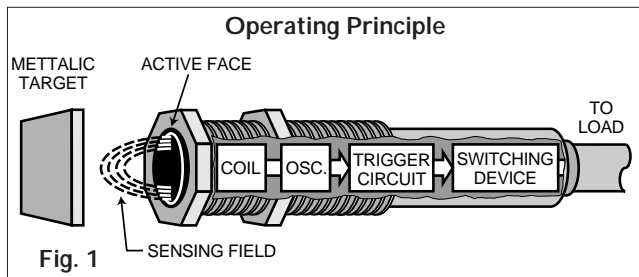

Fig. 1
An inductive proximity switch has three functional sections or stages, as shown in Figure 1. They are: a radio frequency (RF) oscillator circuit that incorporates a coil with a ferrite core, a Schmidt trigger circuit, and a solid state output switching device (transistor in DC types, thyristor in AC types).